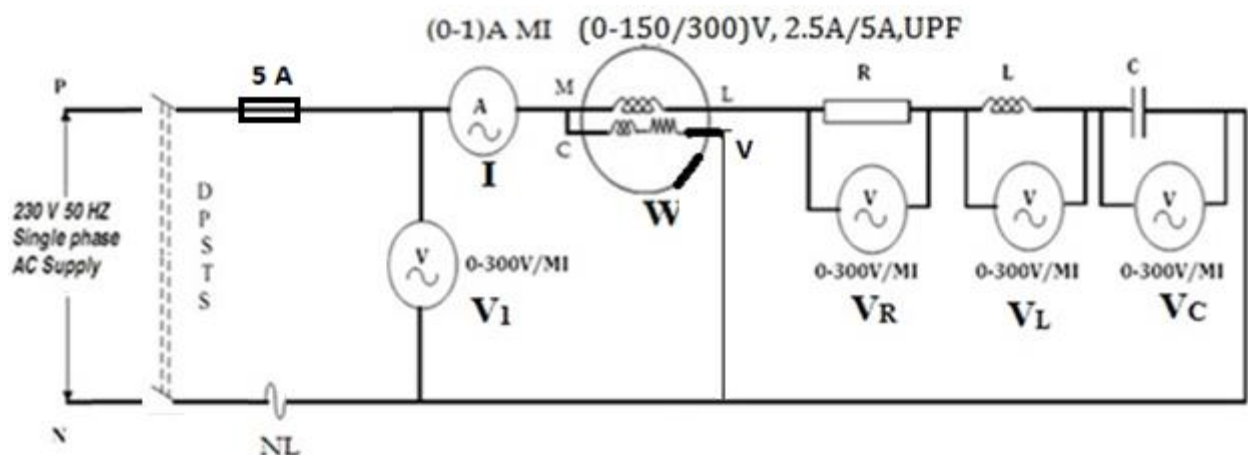

Figure 10.3 : Laboratory Set - Up
The detailed analysis of a RL and RC circuits is done using the medium power circuit shown in figure 10.3. The experiment is done in 2 parts as follows.
01. Fig. 10.3 shows a RLC circuit which is used for R-L / R-C , one at a time.
04. Gradually increase the output voltage. For various values of voltage, note down the corresponding current (I), voltage across Resistor (V_R), voltage across Inductor (V_L) or voltage across capacitor (V_C) and Power (W).